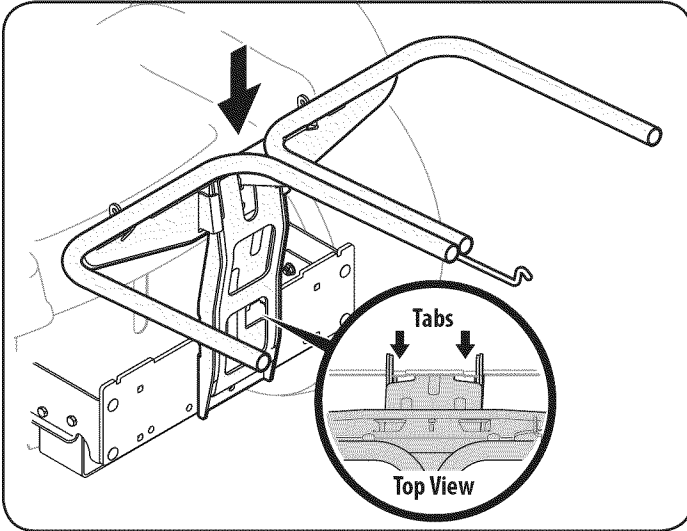

Figure 8
4. Install the bin support assembly onto the mounting assembly on the tractor by hooking it over the cross mounting bracket outside of the two tabs. See Fig. 8.